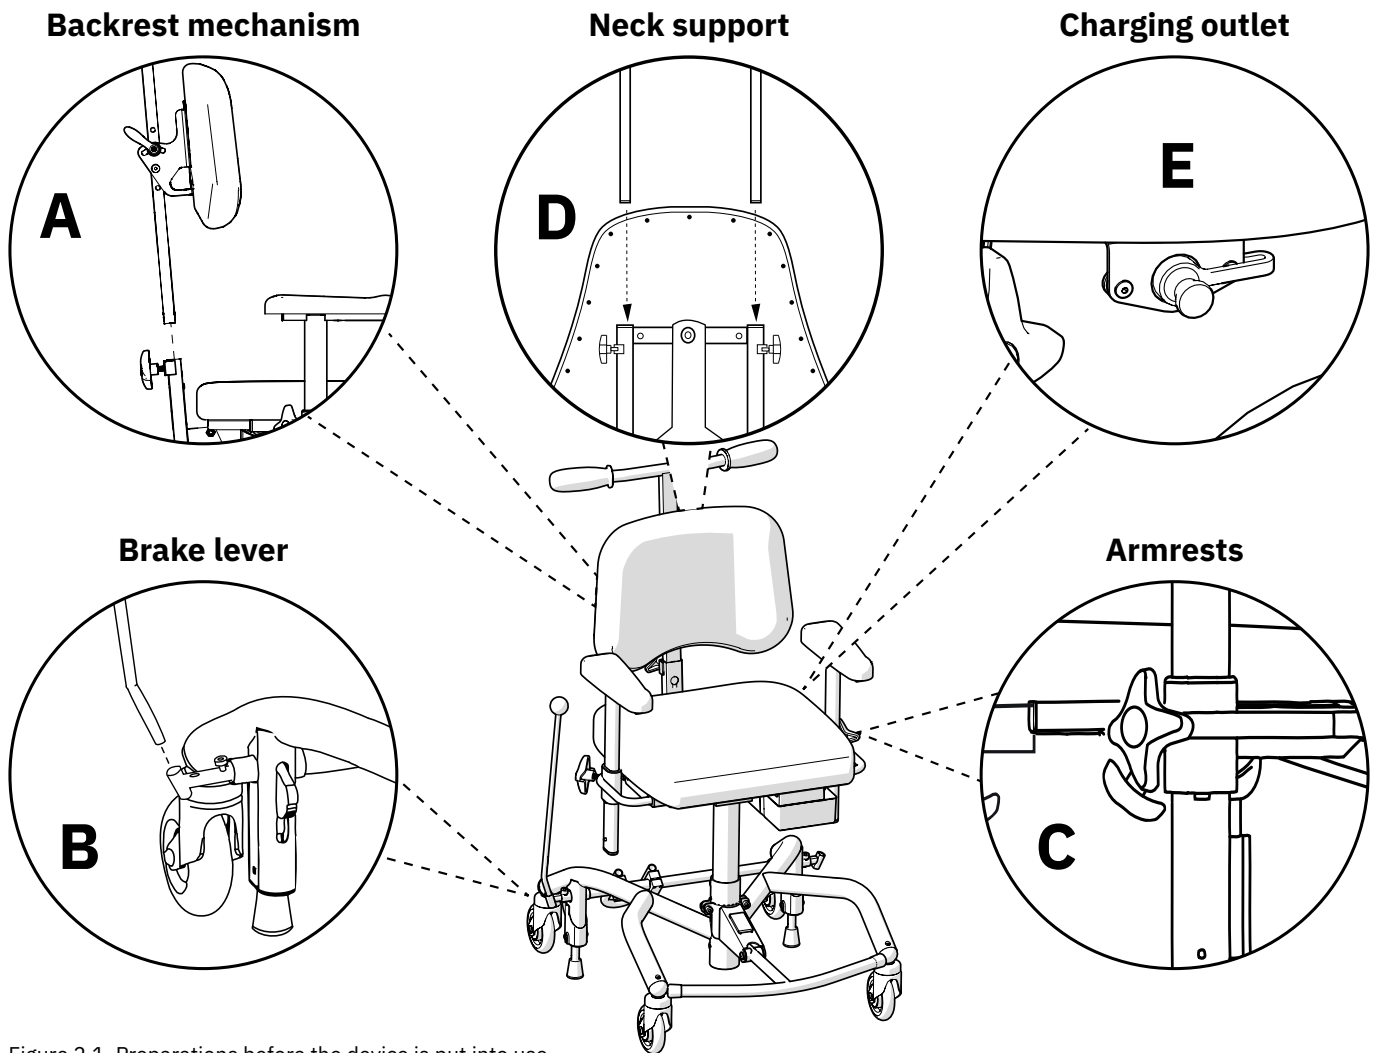

Figure 2.1. Preparations before the device is put into use.
For models with backrest, insert the backrest pole into the backrest mechanism (A) and adjust to the desired height, see Figure 2.1. Tighten all levers (A).
We recommend that the brake lever not be mounted if you intend to use the foot brake. If you intend to use the handbrake function, mount the brake lever as follows: Insert the brake lever into the brake lever bracket (B), see Figure 2.1. The brake lever can be placed on the right or left side.
Loosen the armrest controls (C) and set the desired height and width levels, see Figure 2.1. Tighten all controls (C).
If the device is supplied with a neck support, insert the neck support mechanism into the backrest bracket (D) and set the desired height level, see Figure 2.1. Tighten all controls (D).
Before initial use, activate and/or charge the battery. This is done by connecting the battery charger to the device's charging outlet and to a wall outlet (E), see Figure 2.1. The charging outlet can be placed in different places on the device. The device is usually delivered with the charging outlet mounted at the rear edge under the seat.